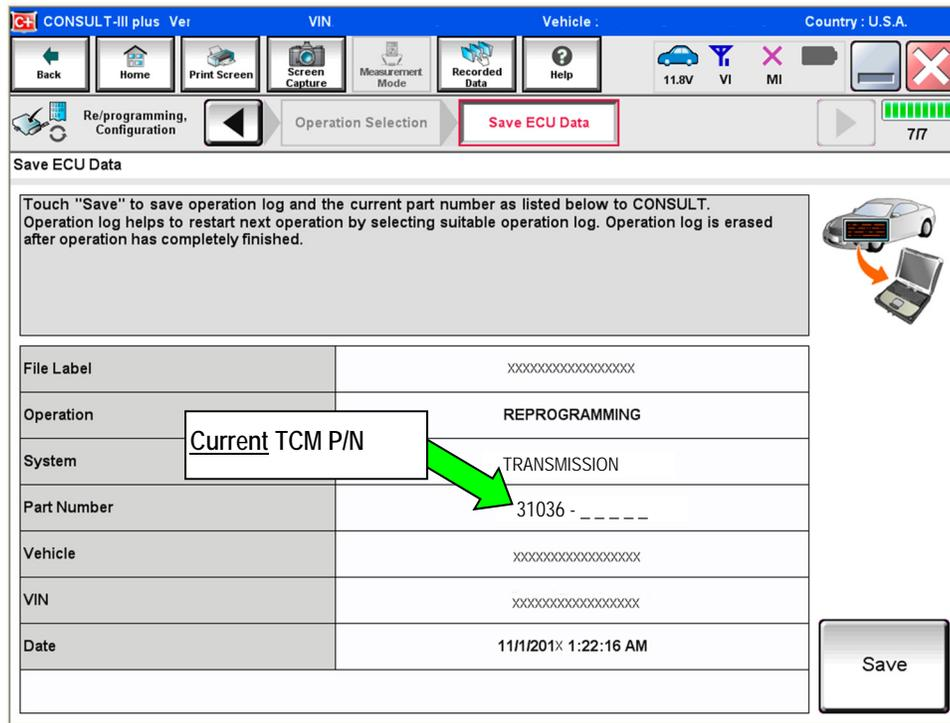

Figure 3
6. Follow the on-screen instructions and navigate C-III plus to the screen shown in Figure 3 on the next page.
7. When you get to the screen shown in Figure 3, confirm reprogramming applies as follows: